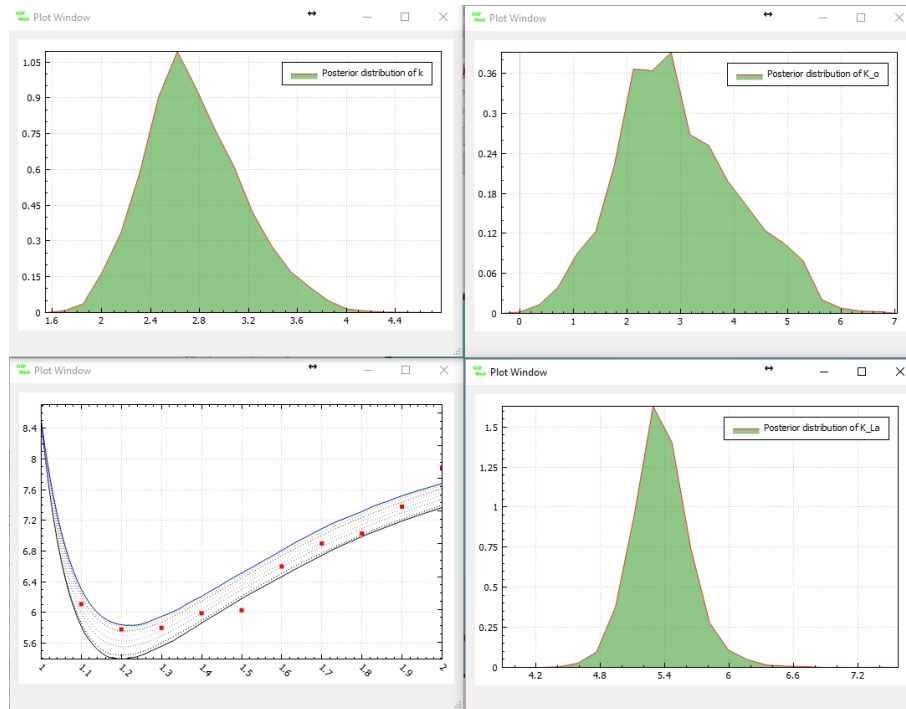

Figure 6: Posterior parameter distribution and posterior DO prediction
- **Checking the posterior distribution of the parameters:** Go to **Inverse Modeling**→**Parameters**, right-click on a parameter and then choose **Plot Posterior distribution histogram**. To see the posterior percentiles of the DO prediction right click on **Inverse Modeling**→**Observations**→**DO** and select **Plot prediction 95 percentiles** (Figure 6)